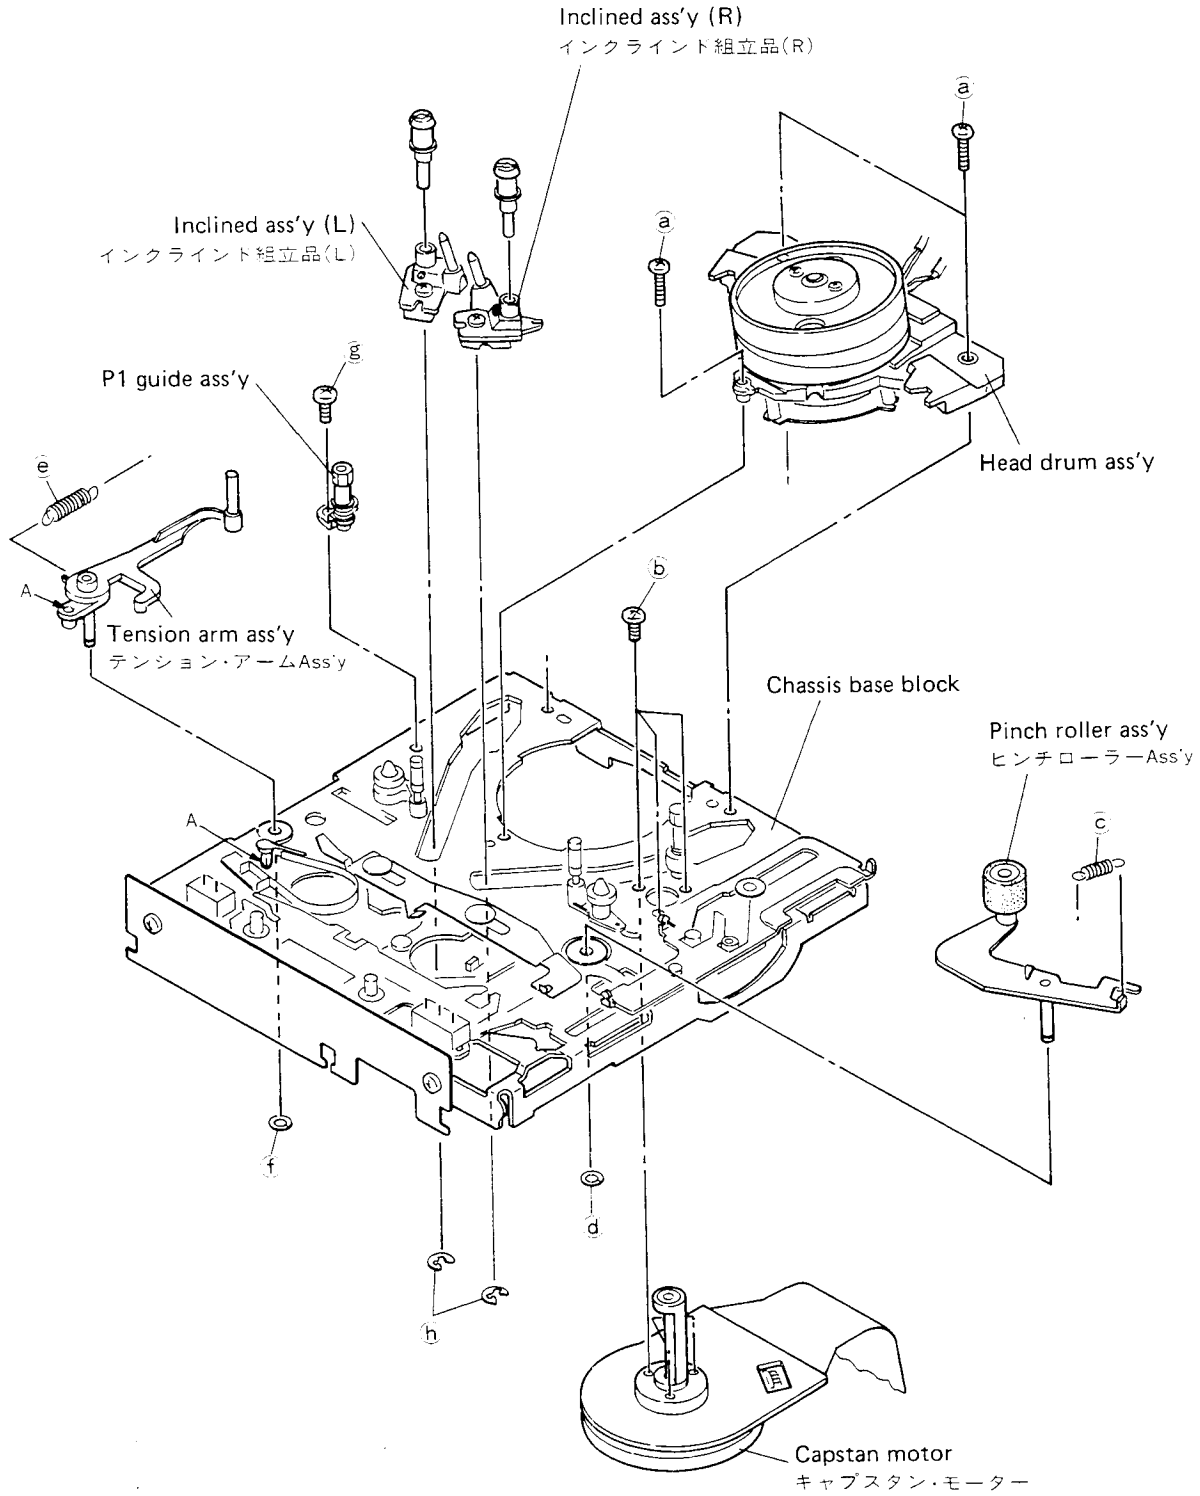

Fig. 2-10
2-3-4. Disassembly of the base mechanism unit (Fig. 2-10)
(図2-10)
Remove three screws ① shown in Fig. 2-10, then remove the head drum ass'y.
Remove three screws ② shown in Fig. 2-10, then remove the capstan motor.